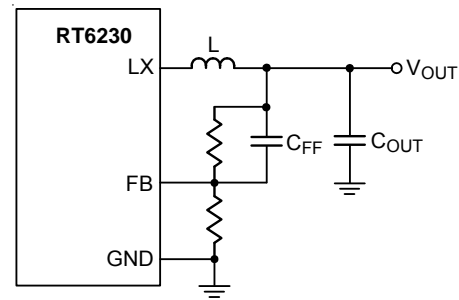
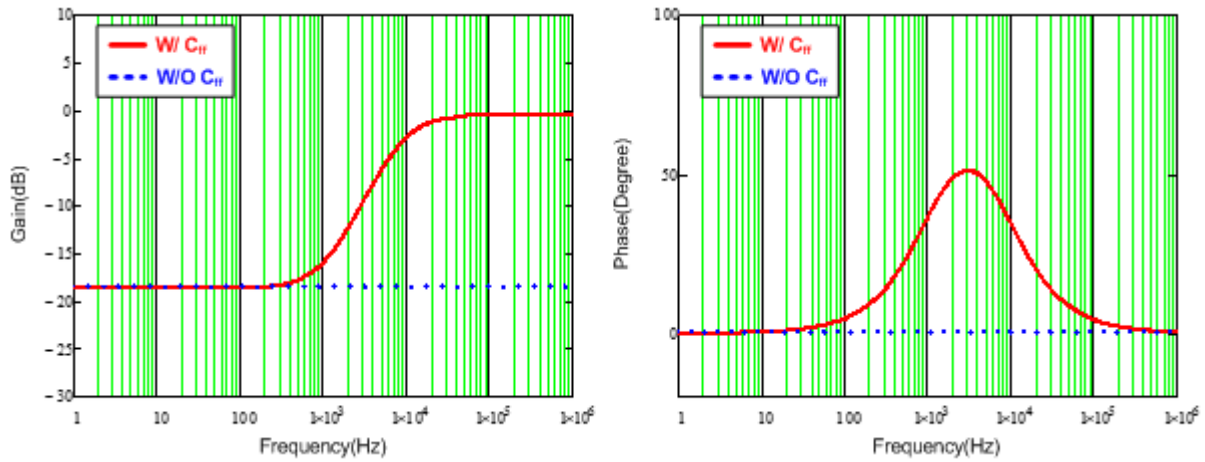

Figure 12. Feedback Loop with Feed-Forward Capacitor
Figure 13. Bode Plot with Different Feedback Loop Conditions
For saving time to design compensator and reducing the layout area through external components, the components of compensator are integrated in IC. However, this integrated compensator might not suit to every load transient spec. Hence, for the RT6230 to be more adaptable, the feed-forward capacitor  $C_{FF}$  is used in the feedback loop to improve transient response, as shown in Figure 12. Figure 13 shows the comparison result of bode plot with different feedback loop conditions. Referring to Figure 13, through connecting a  $C_{FF}$  in feedback network, the gain and phase are raised in mid-frequency that not only can extend the bandwidth, but also boost the phase margin. Moreover, there is also a high frequency pole to eliminate high frequency noise. Consequently, those features of feed-forward feedback network allow the RT6230 have faster response to handle different load transient.
Observing Figure 13, the maximum phase boost occurs between zero and pole frequencies that is defined as maximum phase boost frequency, as expressed in equation (4). Hence, in order to achieve the maximum phase boost by adding  $C_{FF}$  in the RT6230, the system's original bandwidth has to be located at maximum phase boost frequency.